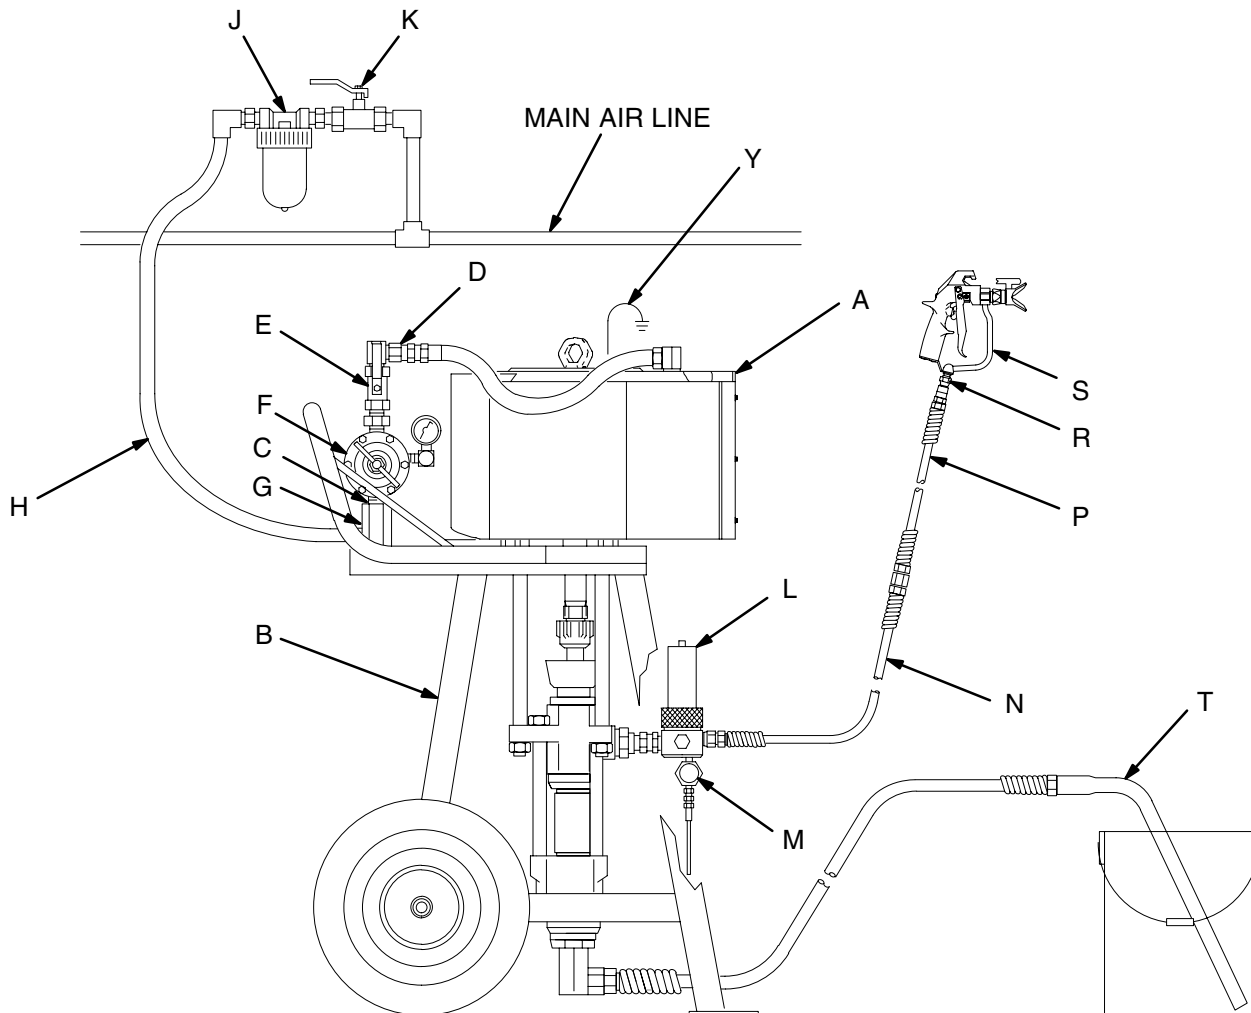

Fig. 2
Fig. 2 is only a guide for selecting and installing system components and accessories. Contact your Graco distributor for assistance in designing a system to suit your particular needs.
Mount the pump (A) to suit the type of installation planned. Fig. 2 illustrates a cart-mounted system. Pump dimensions and the mounting hole layout are shown on page 23.
Install the following accessories in the locations shown in Fig. 2, using adapters as necessary:
- **A fluid filter (L)** with a 60 mesh (250 micron) stainless steel element, to filter particles from the fluid as it leaves the pump. It includes a **fluid drain valve (M)**, which is required in your system to relieve fluid pressure in the hose and gun (see the **WARNING** at left).
- **A gun (S)** dispenses the fluid. The gun shown in Fig. 2 is an airless spray gun for light to medium viscosity fluids.
- **A gun swivel (R)** allows freer gun movement.
- **A suction kit (T)** allows the pump to draw fluid from a 19 liter (5 gallon) pail.
1. Refer to Fig. 2 on page 6. Connect the suction kit (T) to the pump's fluid inlet, and place the tube into the fluid supply.
2. Be sure the air regulator (F) is closed. Then open the pump's bleed-type master air valve (E). Hold a metal part of the spray gun (S) firmly to the side of a grounded metal pail and hold the trigger open. Now slowly open the air regulator until the pump starts.
4. If the pump fails to prime properly, open the drain valve (M). Use the drain valve as a priming valve until the fluid flows from the valve. See Fig. 2. Close the drain valve.
7. Never allow the pump to run dry of the fluid being pumped. A dry pump will quickly accelerate to a high speed, possibly damaging itself. A pump runaway valve (C), which shuts off the air supply to the pump if the pump accelerates beyond the pre-set speed, is available. See Fig. 2 on page 6. If your pump accelerates quickly, or is running too fast, stop it immediately and check the fluid supply. If the supply container is empty and air has been pumped into the lines, refill the container and prime the pump and the lines with fluid, or flush and leave it filled with a compatible solvent. Be sure to eliminate all air from the fluid system.